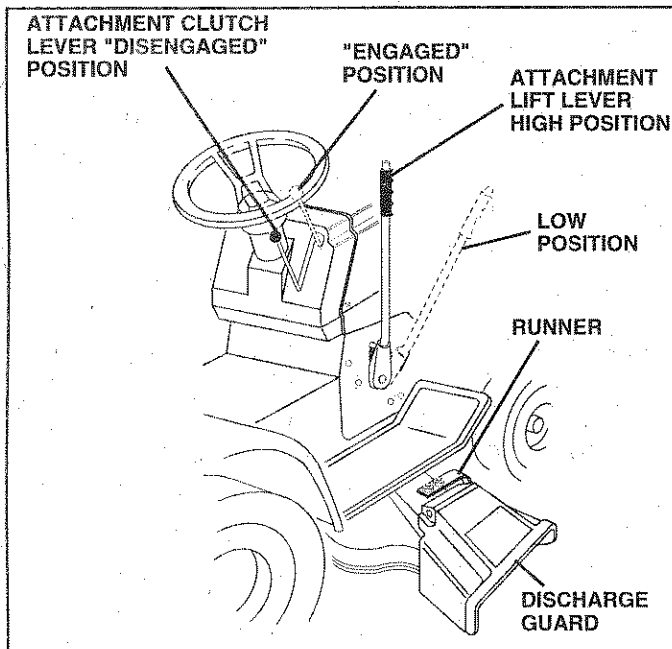

FIG. 7
## TO OPERATE MOWER (See Fig. 7)
## TO START ENGINE (See Fig. 7)
- Use the runner on the right hand side of mower as a guide. The blade cuts approximately an inch outside the runner (See Fig. 7).